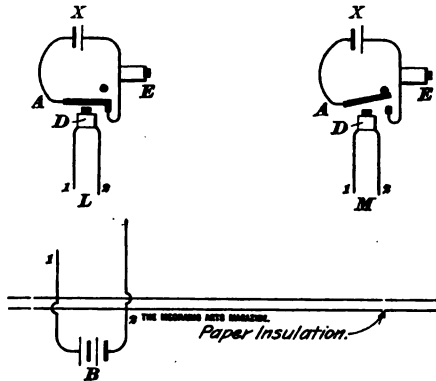

FIG. 7.
tem is the combination of the track circuits with the manual machine, as it is this element which makes it impossible for the signalman to give a clear signal in error. An idea of its operation may be gained by referring to Fig. 7. At the end of each block, a section of track, three rails in length, is insulated by pieces of pressed paper
7. In case of trains passing towers without "markers" (the flags or lamps on the rear coach, which indicate the end of the train), the signalmen in advance and rear are notified by the bell code. Thus, if *B*, Fig. 7, notices that a train passed him without markers, he notifies *A* and *C* by the code. *C* then displays a green-and-white signal, which notifies the approaching engineer that